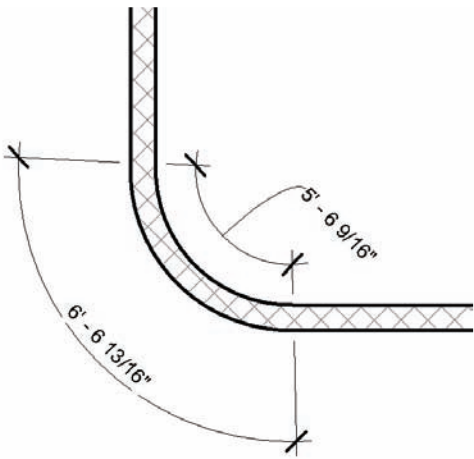

Figure 4.22
- **Arc length** dimensions show the length of an arc (see Figure 4.22).